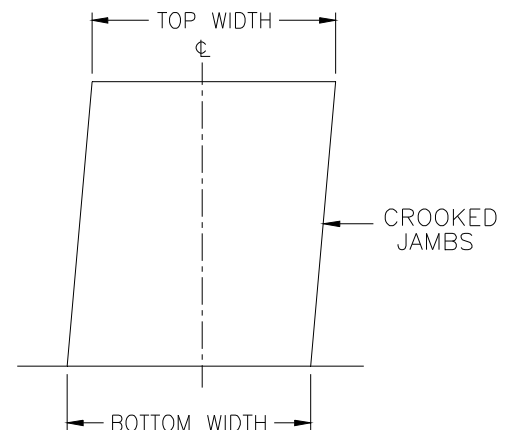

FIG. 3
- \* **If the door jambs are crooked**, install door on the center line (Figure 3).